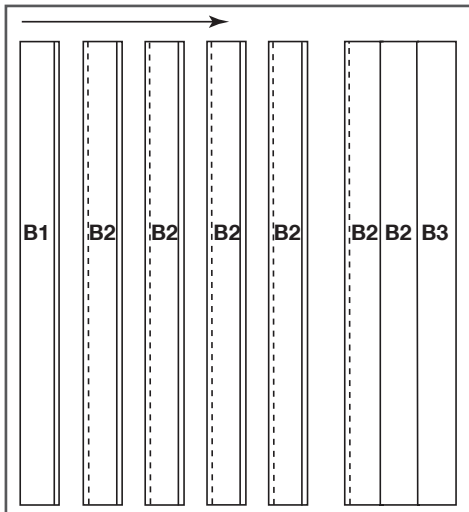

Figure 1
1. On a flat, clean surface, lay out the right slat (B3) with the groove facing to the left. Lay all B2 slats next to B1 with the tongue facing to the left. Lay the left slat (B3) to the left of the last B2 Slat with the groove facing right. Assemble by fitting the tongue into the groove of each piece. Gently tap into place with a rubber mallet to seat the slats together (Figure 1).